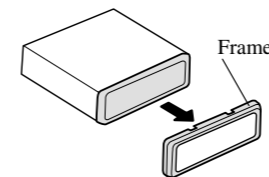

Fig. 12
**1. Remove the frame. (Fig. 12)**